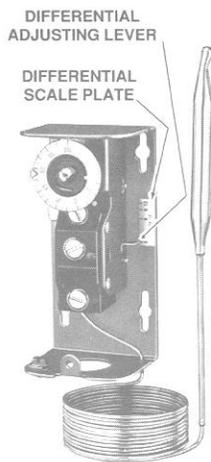
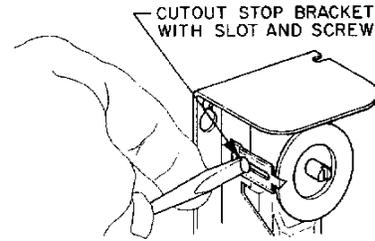

Fig. 1 -- An A19 with external range adjustment and screwdriver slot.
Fig. 5 – All models have a screw type cutout stop. The stop screw must be loosened and moved to the stop setting desired. Tighten screw after setting is made.
The A19 temperature controls may be supplied with an external range adjustment and screwdriver slot as shown in Fig. 1, range adjustment knob or solid cover. Solid cover models with calibrated dial are adjusted by removing the cover and moving dial so the desired setting is in line with the dial pointer on the stop bracket. (See Fig. 5.) Convertible adjustment models can be field converted from concealed screwdriver slot adjustment to knob adjustment or external screwdriver slot adjustment. They are supplied with a snap-in plug in the cover to provide concealed screwdriver slot adjustment. For knob adjustment remove the snap-in plug and press the knob onto the slotted shaft. For external screwdriver slot adjustment remove the snap-in plug. The convertible adjustment models with remote bulb include a bulb mounting clip.
3. Loosen the cutout stop screw, slide the screw to the front of the temperature control against the plastic step behind the dial and tighten the screw. (See Fig. 5.) Sometimes an exact stop setting is not possible and stop must be set to the closest stop corresponding to dial setting required.